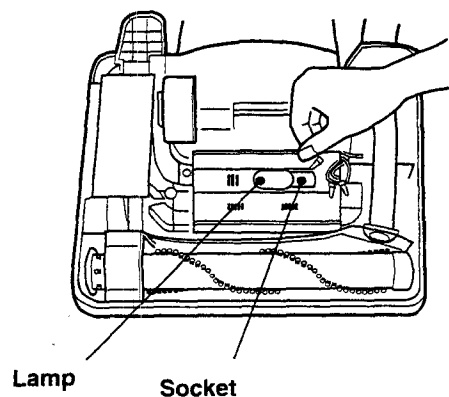

Fig. 23
**2** Note the arrangement of the lead wires and then carefully lift out the headlight assembly. (Fig. 23)